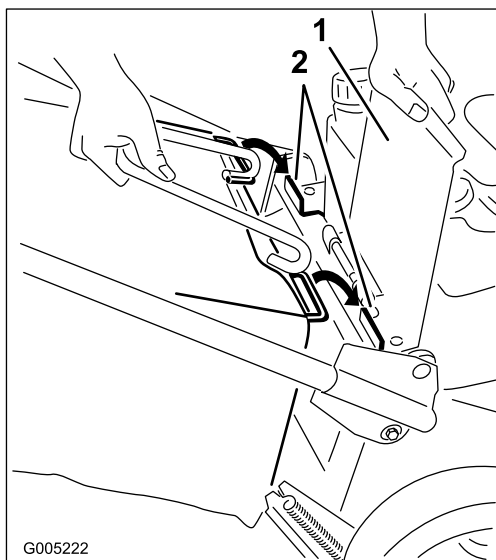

Figure 18
2. Raise and hold up the rear door (Figure 18).
3. Set the bag frame on the bag support tabs (Figure 18).